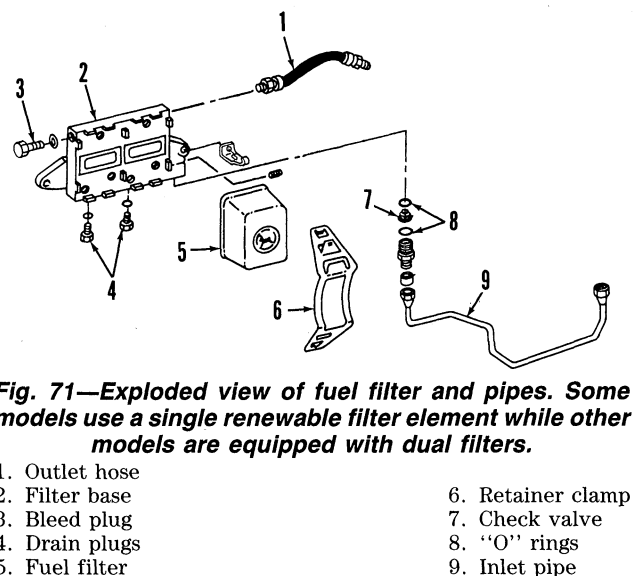
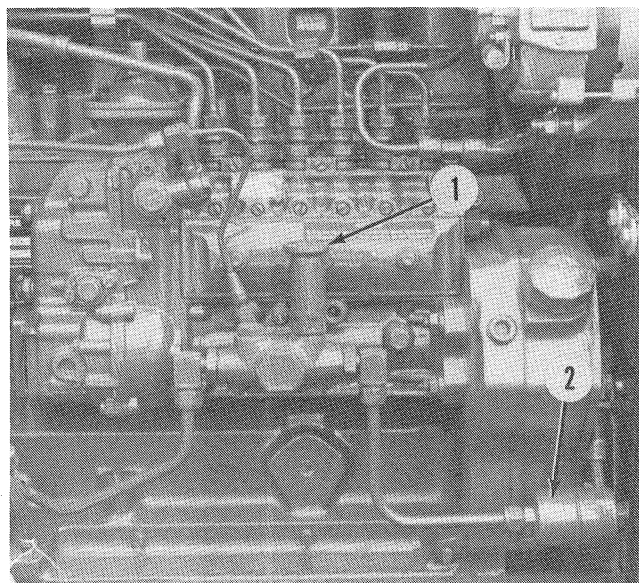

Fig. 71—Exploded view of fuel filter and pipes. Some models use a single renewable filter element while other models are equipped with dual filters.
Fig. 72—To operate fuel pump hand primer on turbocharged models, unscrew knob (1) until it can be pulled upward.
63. Some models are equipped with a single, two-stage fuel filter and sediment bowl, while other models are equipped with dual filters (5—Fig. 71). An inline fuel strainer (2—Fig. 72) is also used in the fuel inlet line between the transfer pump and fuel tank. A check valve (7—Fig. 71) in the filter inlet line (9) prevents fuel from draining back when engine is stopped.
To renew filters, close fuel shut-off valve located at bottom of fuel tank. Loosen bleed plug (3—Fig. 71) and remove drain plugs (4) to drain fuel from filters. Push top of retainer (6) inward to release tab. Remove old filter and install new filter. Bleed air from fuel system as outlined in paragraph 64.
64. BLEEDING. Whenever fuel lines are disconnected or filters are serviced, air must be bled from the fuel system. To bleed system, loosen bleed plug (3—Fig. 71) on filter base (2) and proceed as follows:
On Models 4250, 4450, 4650 and 4850, the hand primer knob (1—Fig. 72) must be unscrewed until it can be pulled up. Pump the primer until air-free fuel flows from bleed plug opening. Tighten the bleed plug, then continue to actuate hand primer until a slight resistance is felt. Push hand primer down and tighten knob to lock in place.